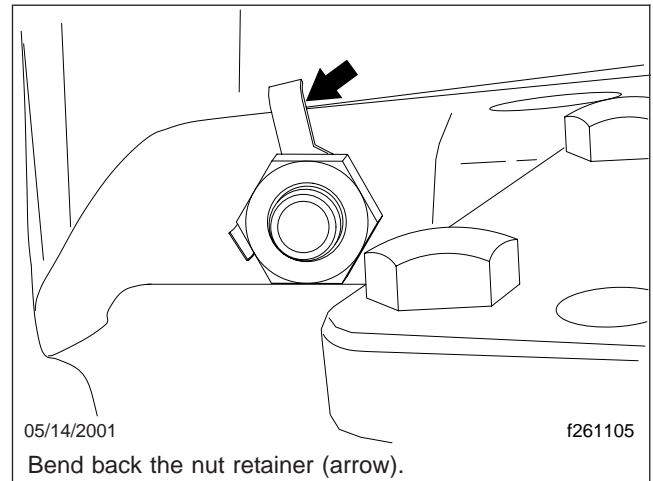

Fig. 9, Power Take-Off Unit (PTO) Nut Retainers
8. Bend back the nut retainers and remove the power take-off unit (PTO), if installed. See Fig. 9.